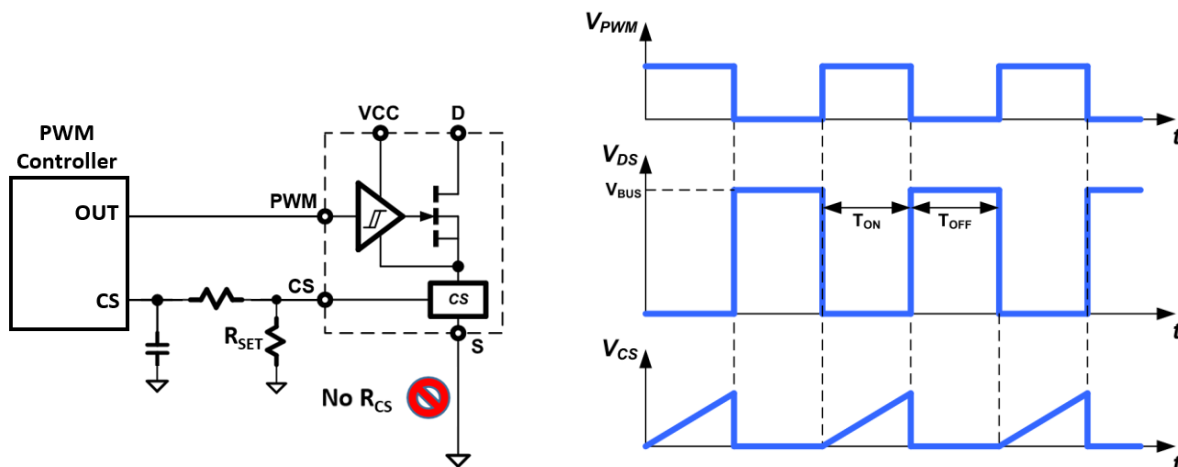

Fig. 25. Current sensing circuit and timing diagram
For many applications it is necessary to sense the cycle-by-cycle current flowing through the power FET. Existing current sensing solutions include placing a current sensing resistor in between the source of the power FET and PGND. This resistor method increases system conduction power losses, creates a hotspot on the PCB, and lowers overall system efficiency. To eliminate this external resistor and hotspot, and increase system efficiency, this IC includes GaNSense™ Technology for integrated and accurate loss-less current sensing. The current flowing through the internal GaN power FET is sensed internally and then converted to a current at the current sensing output pin (CS). An external resistor ( $R_{SET}$ ) is connected from the CS pin to the S pin and is used to set the amplitude of the CS pin voltage signal (Fig. 25). This allows for the CS pin signal to be programmed to work with different controllers with different current sensing input thresholds.